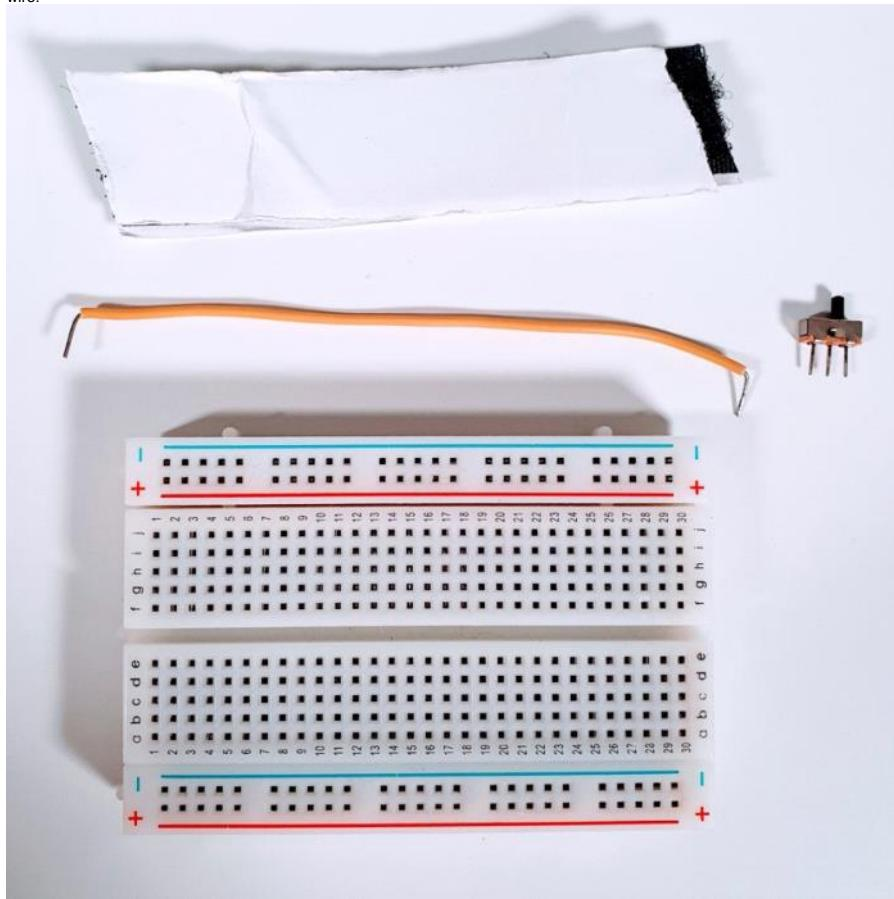

Figure 8.11 – Items needed to add a power switch
1. Make sure you have the following equipment ready, as shown in *Figure 8.11*: a breadboard, some velcro, a mini breadboard-friendly SPDT switch, and one length of single-core 22 AWG wire: